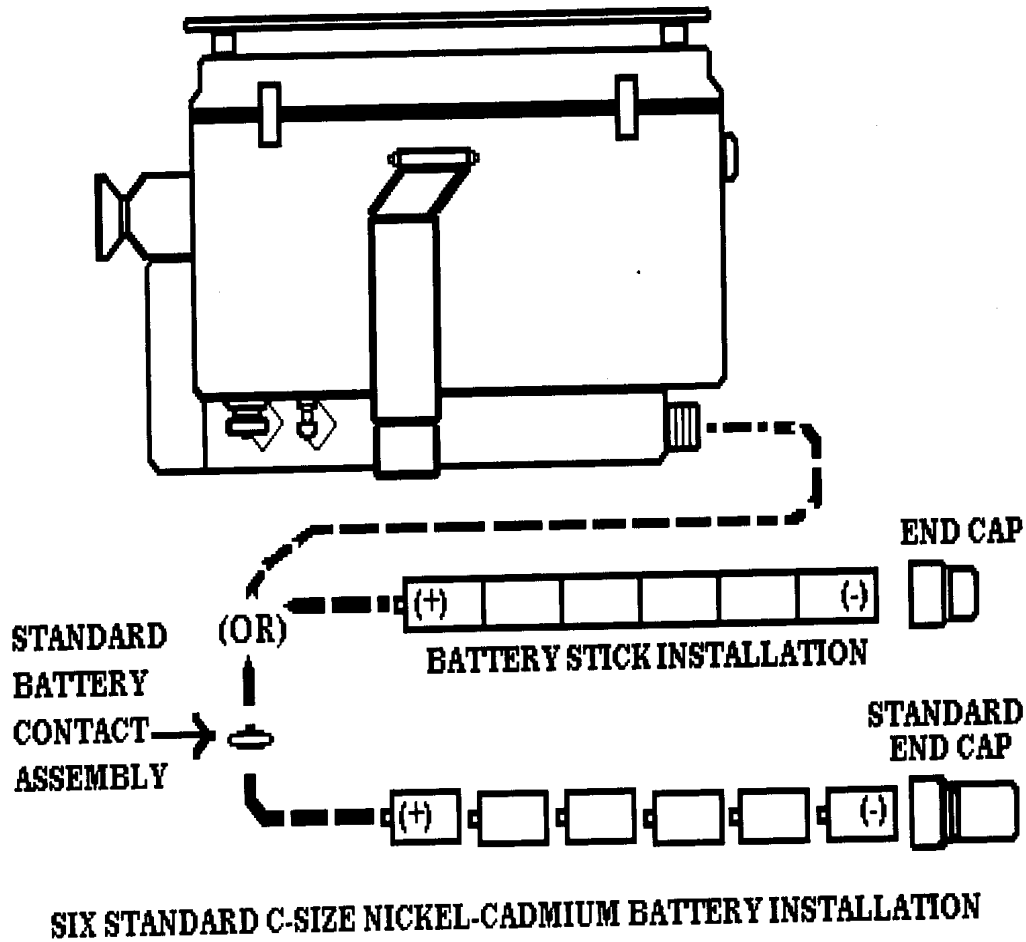

Figure 1. Battery installation.
**a.** Install a fully charged battery stick into TI (fig. 1).